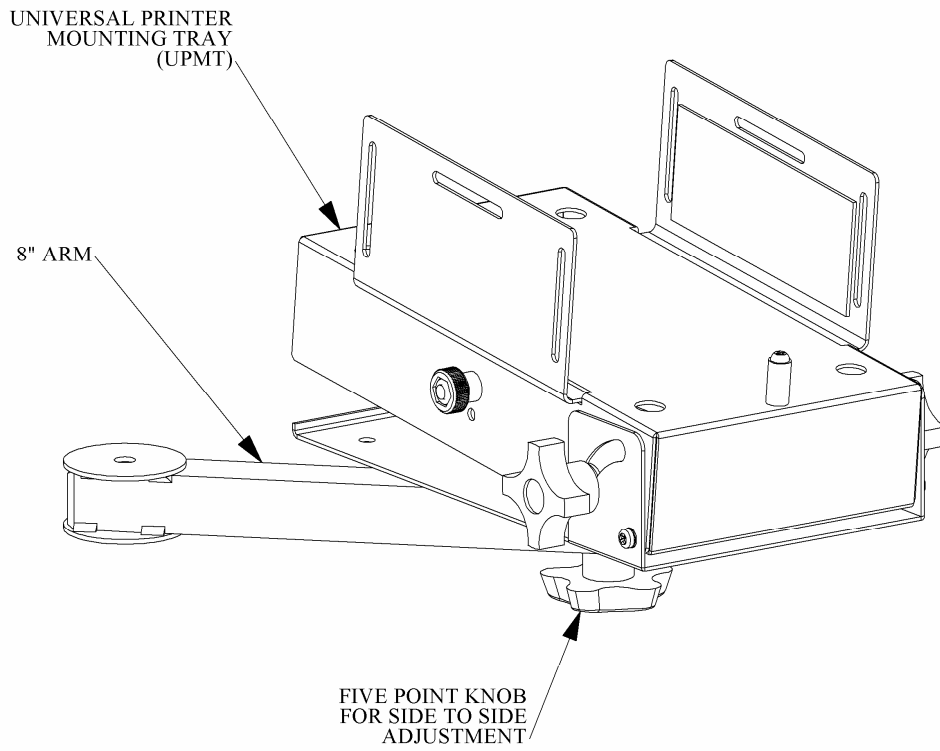

Figure 3 - UPMT on an 8" arm
4. Install the *UPMT* on the end of the arm (See Figure 3).